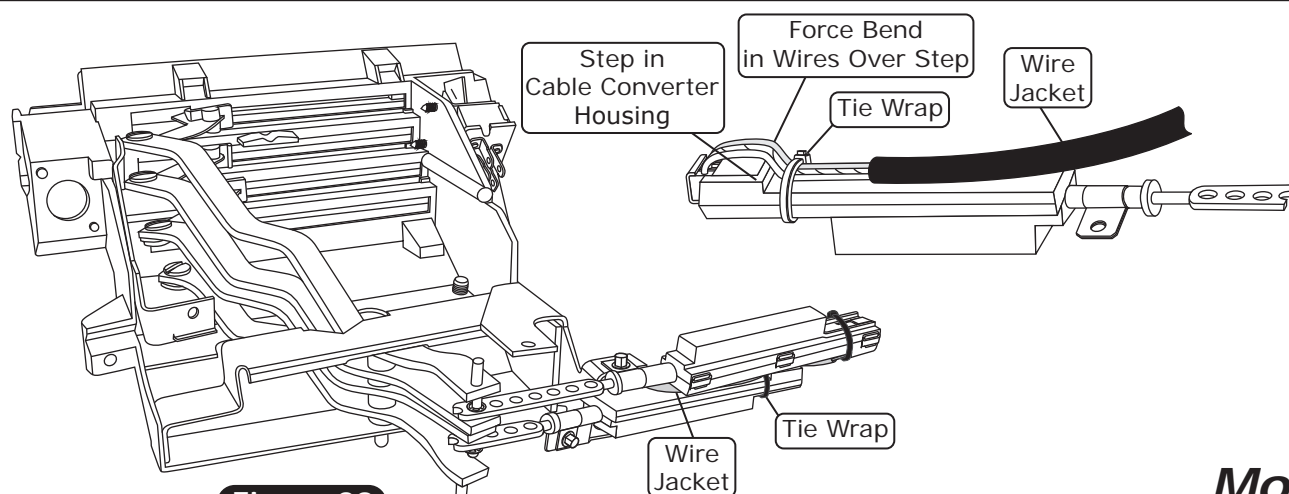

Figure 20
1. Once the connector is correctly plugged into the cable converter assembly, secure the wires to the cable converter assembly using the supplied tie wraps (See Figure 20, below). The tie wrap must be located between the end of the wire jacket and the step in the cable converter housing, forcing a bend in each wire as it passes over the step in the cable converter housing. The head of the tie wrap must fall on the edge of the housing to remain tight. Ensure that the tie wraps are tight enough that the wires cannot move (See Figure 20, below).